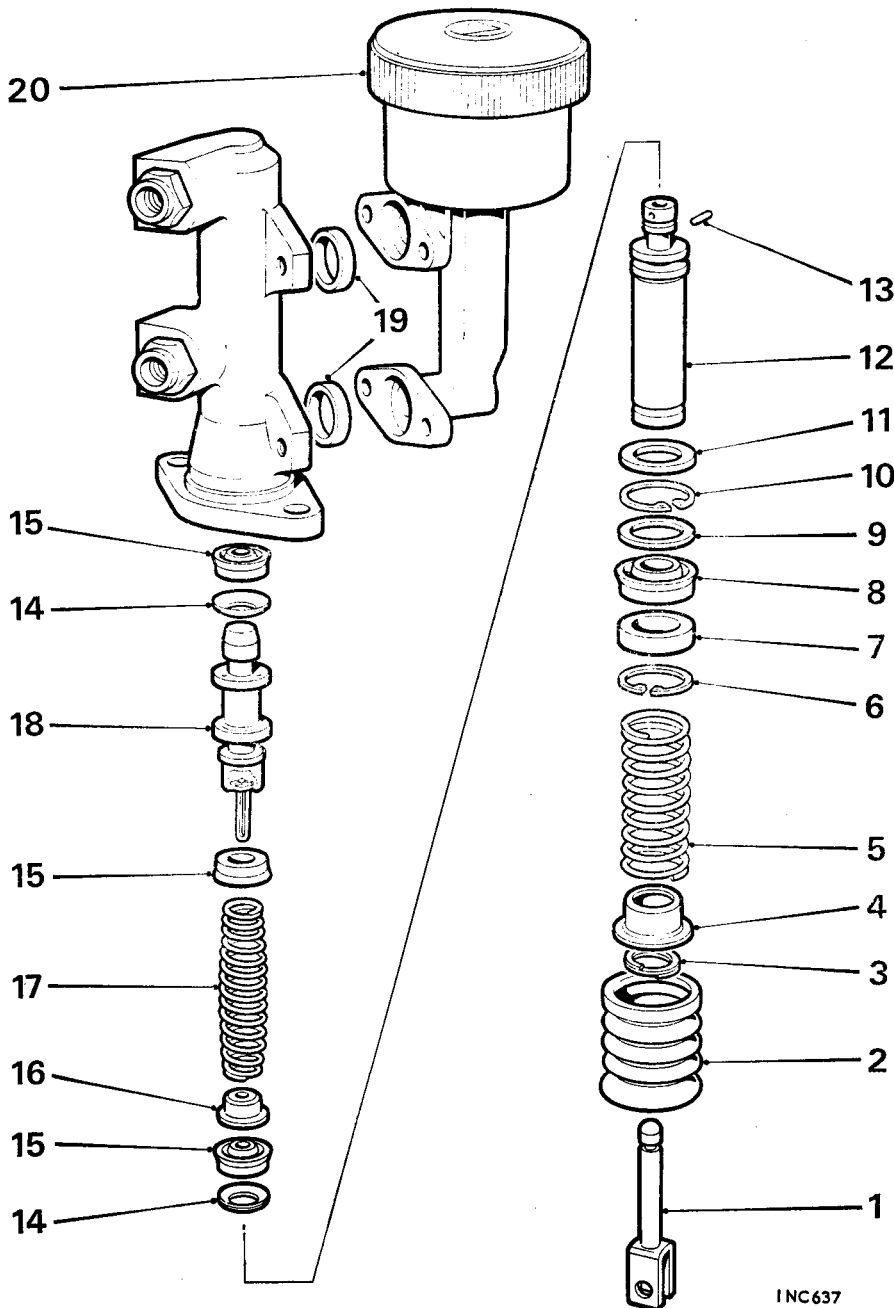

Fig. Mb.6
Refer to Fig. Mb.6.
- Immerse all internal components in a recommended brake fluid as in item 26, and assemble them while wet.
- Locate the piston washer 5 over the head of the secondary piston, convex surface first; carefully ease the secondary cup over the piston and seat it with its flat surface against the washer, see Fig. Mb.6.